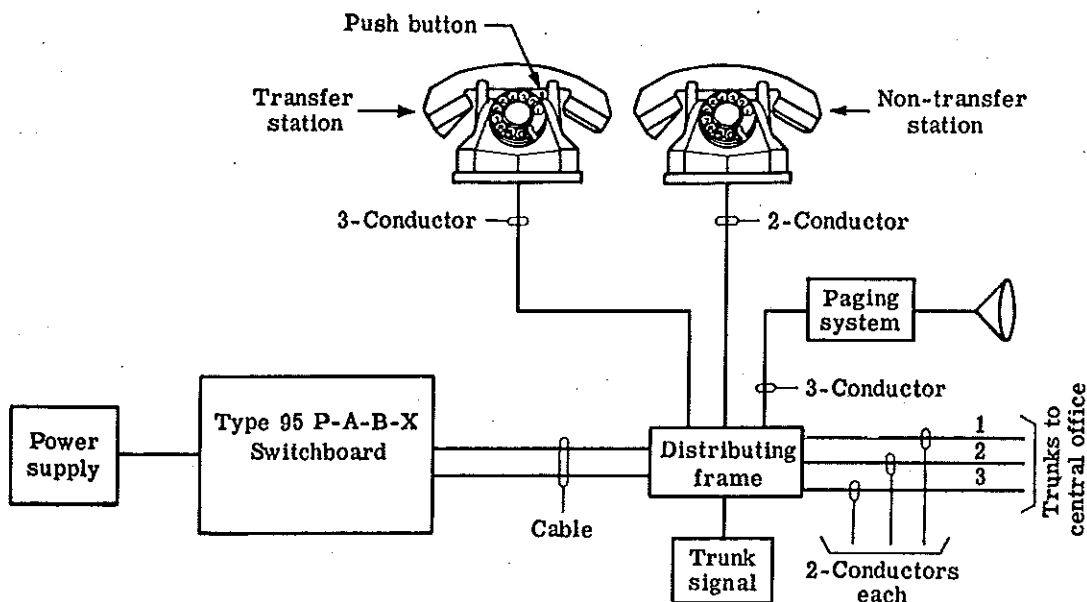

Figure 5. General plan for wiring.
**3.1 Placing and mounting the switchboard**—Place the switchboard in a dry, dust-free area, centrally located with respect to all the P-A-B-X telephones. If a distributing frame is used, all trunk, station, and paging-system connections are brought to it, and cable is used to connect the distributing frame to the switchboard (Figure 5).
**3.3 Trunk wiring**—A pair of wires is required to connect the switchboard to each central-office trunk. The three trunk pairs are run from the trunk distributing terminal (where the trunks enter the building) to the switchboard terminal block, or to the distributing frame if used (Figure 5).